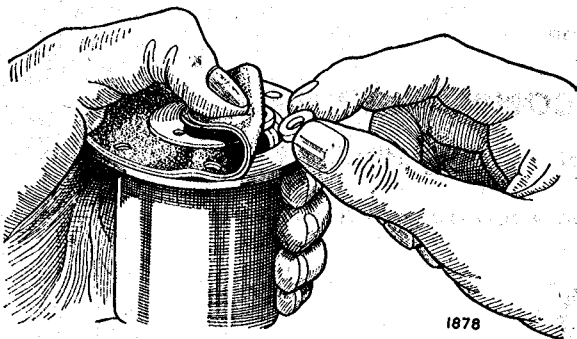

Fig. 5. Inserting the diaphragm centralizing rollers
10. Fit the 11 brass centralizing rollers (Fig. 5) by turning back the diaphragm edge and dropping the rollers into the coil recess. The pump should be held in the left hand, rocker end downwards, to prevent the rollers from falling out.